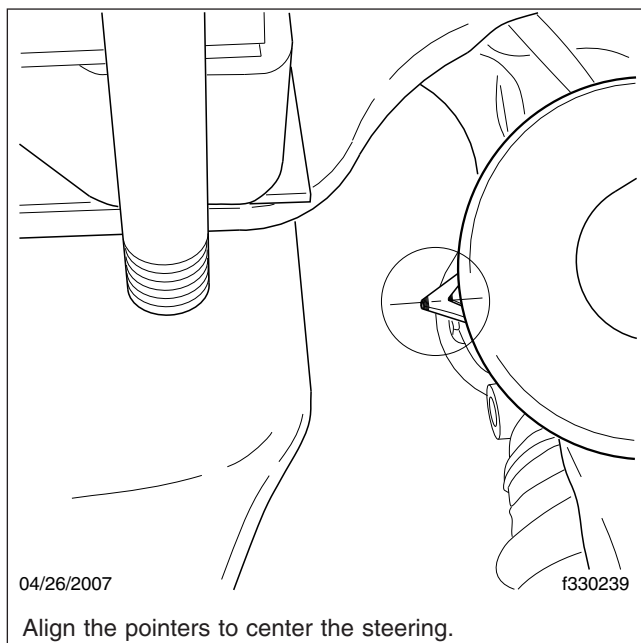

Fig. 5, Centering the Rack and Pinion Steering Gear
5. Place a turn-plate or turntable under both front tires. Remove the safety stands and lower the vehicle. Remove the lock-pins from the gauges; make sure the tires are exactly straight ahead. On vehicles with rack and pinion steering, center the rack using the pointers on the front of the input shaft housing. See **Fig. 5**.